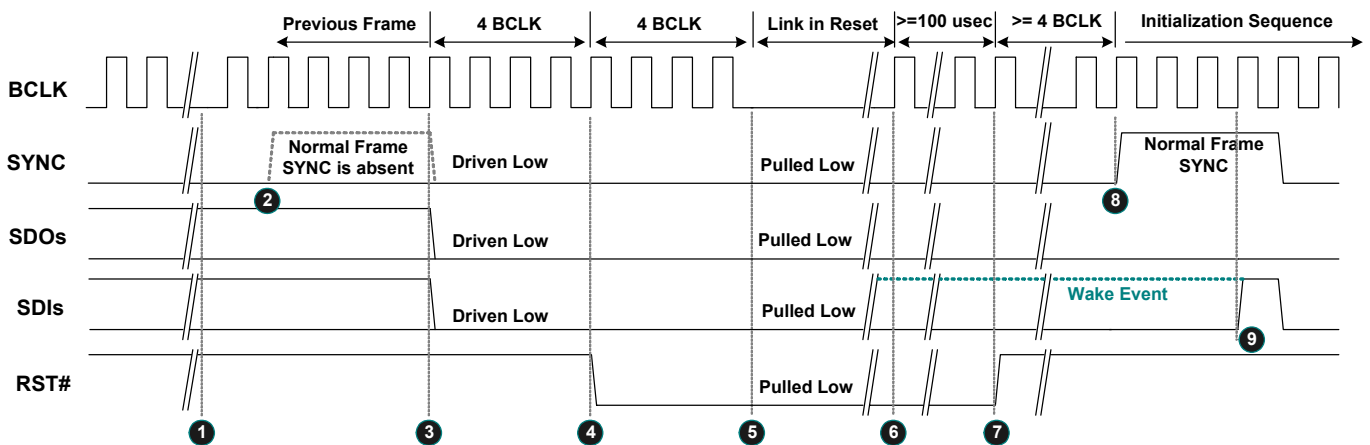

Figure 13. Link Reset Timing
3. Software initiates power management sequences. Figure 13, page 17, shows the 'Link Reset' timing including the 'Enter' sequence (❶~❺) and 'Exit' sequence (❻~❾)